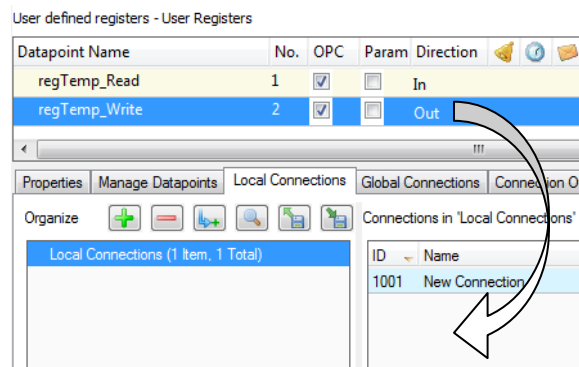

Figure 45: Create a connection with drag-and-drop.
2. In the properties view below the data point list click on the **Local Connections** tab as shown in Figure 45.
3. Then simply drag a data point from the data point list and drop it onto an empty area in the connections list as shown in Figure 45.